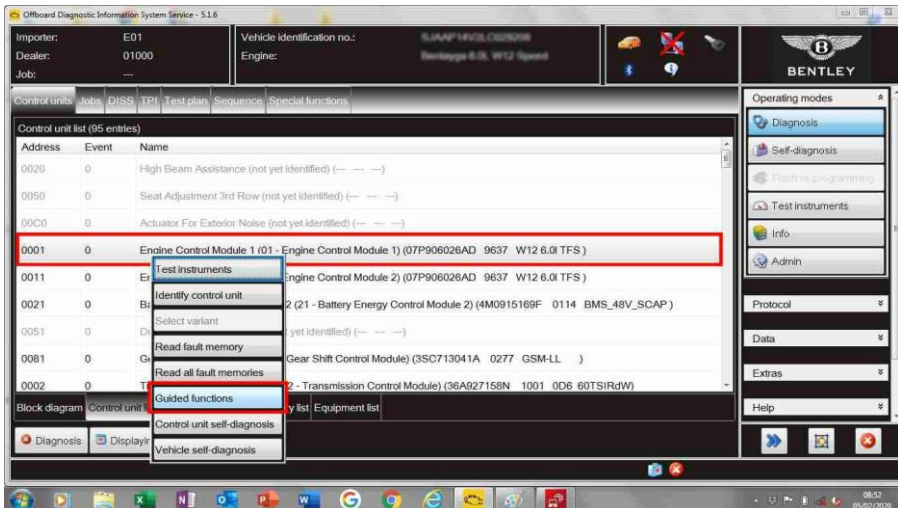

Figure 2.
- **“Right click”** on **“Engine Control Module 1 (01 – Engine Control Module 1)”** and select **“Guided functions”** – Figure 2.